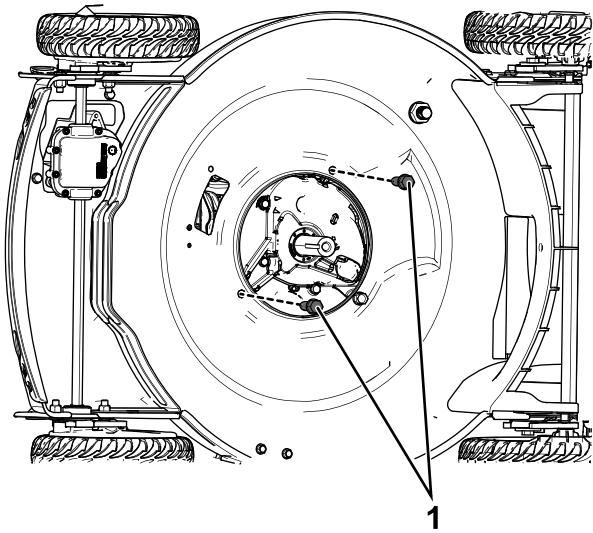

Figure 5
1. Install the 2 engine-mount bolts (3/8 x 1 inch) and torque them to 46 N·m (34 ft-lb); refer to Figure 5.